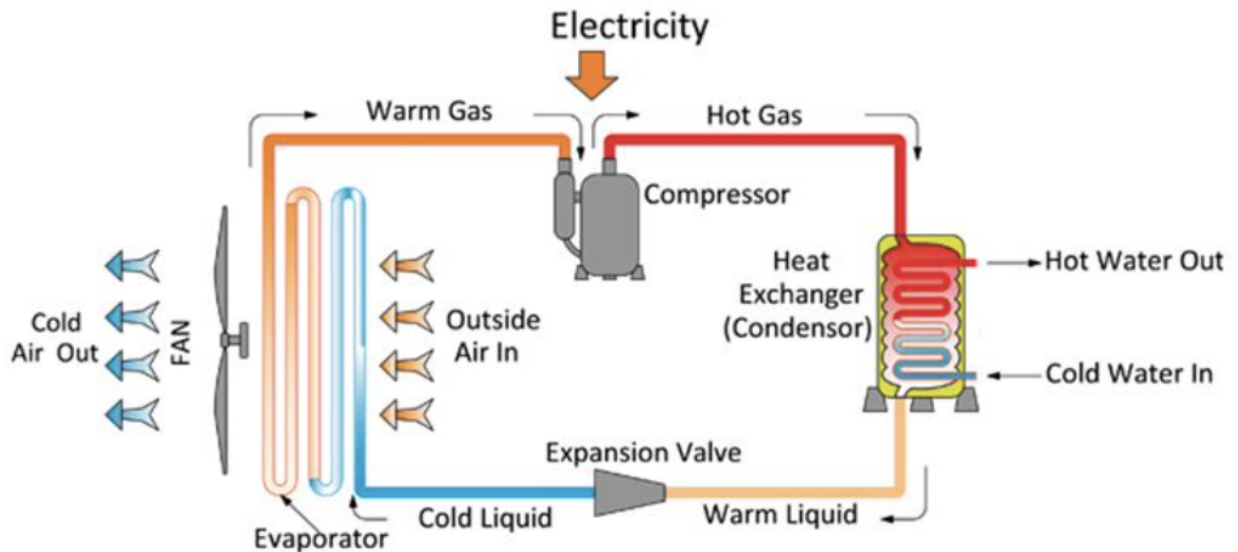

Figure 5: source:nukiengineering.com
- Comparing the HPWH behavior to the EWH, we can see the issue clearly. Figure 5 shows the EWH behavior under the same parameters.
- The `waterheater_model` property should be `ONEZNODE` when there is no water demand. When there is water demand, there is inlet water pumped inside the tank. Therefore, both heating element capacity (top and bottom) should turn on. When both heating element capacity are on, the model switches to `TWONODE` model which is not the case in the HPWH. Refer to figure 5 and figure 3 for a visual analysis.